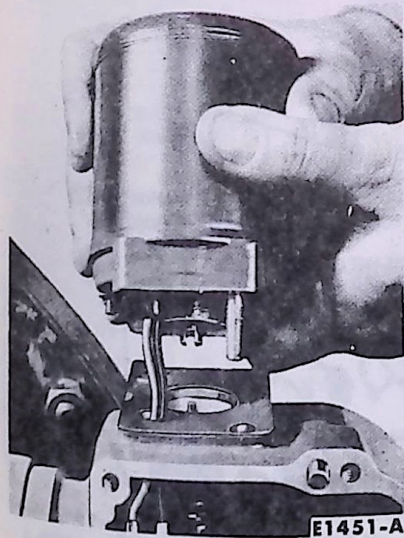

FIG. 44 Removing or Installing Shift Motor
2. Remove the two stud nuts and star washers that hold the shift motor to the shift housing (Fig. 44), and carefully break loose the motor from the housing. Remove the gasket.
2. Position the gasket, and install the shift motor on the shift housing so that the slot in the motor shaft fits over the tang of the worm shaft (Fig. 44).